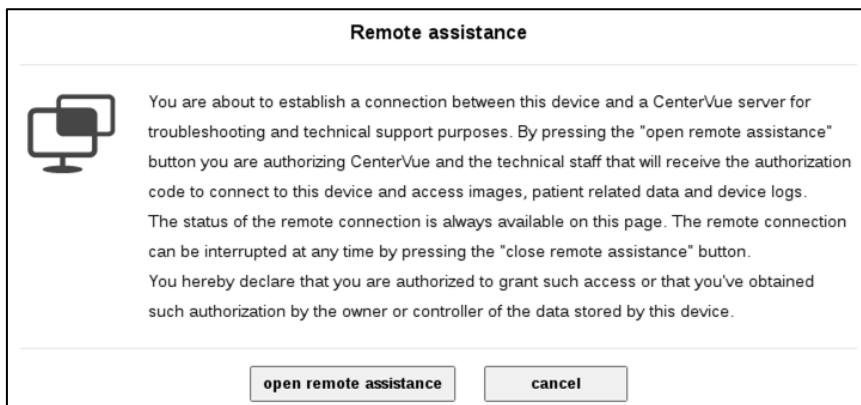

Figure 59 - Remote Assistance
- **open remote assistance** opens a remote connection that allows authorized service technicians to connect to the DRS. Once pressed, the disclaimer shown in Figure 59 appears, informing the operator that he/she is authorizing access to all data present on the device, for servicing purposes. Once confirmed, the DRS contacts CenterVue servers and receives a random authorization code. This code must be communicated to the service operator in order to connect. The connection can be closed by clicking the **close remote assistance** button.
When a new software update is released by the manufacturer and the DRS is connected to the internet, a new icon in the Home screen top bar, notifies availability of the update. Clicking on the icon, the message shown in Figure 59 will appear. To download and install the new software version click **Install**, otherwise click **Cancel**.